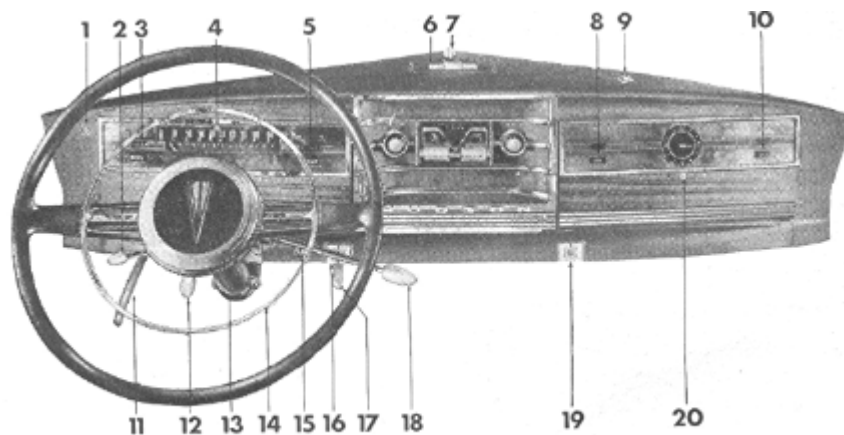

Figure 6
ASH RECEIVER (6), Fig. 6, may be opened by lifting the knob.
BONNET LOCKING HANDLE (12), Fig. 6, should be pushed fully forward to unlock the bonnet. Pull handle back all the way to lock it.
CLOCK (20), Fig. 6. Mechanical clock requires winding every day. Turn knob clockwise to wind. Pull knob out to reset. Electric clock requires no attention. Fuse is located in back of clock. Pull out knob to reset.
COWL VENTILATOR HANDLE (17), Fig. 6, should be pushed forward to open ventilator and pulled back to close it.
HAND BRAKE HANDLE (11), Fig. 6, should be applied by pulling straight back *and at the same time depressing the brake pedal*. Release by turning $\frac{1}{4}$ turn to right and pushing downward as far as it will go.
HEADLAMP BEAM INDICATOR (4), Fig. 6, shows red when head lamp beam is in upper or country driving position.
HORN BUTTON RING (14), Fig. 6 (Opt. equipment on Series 171, 173, and 178; std. on Series 172 and 174). Press down from any position to operate horns.
RHEOSTAT (13), Figure 6, located at bottom of instrument panel, is standard on Series 172 and 174. It controls the brilliancy of instrument lights. Turning knob to right decreases light and turning it to the left increases brilliancy. Extreme left position turns out instrument lights.
WATER TEMPERATURE GAUGE (5), Fig. 6, indicates temperature of cooling fluid only when ignition is turned on. Needle returns to "H" position at right side of dial when ignition is turned oil.